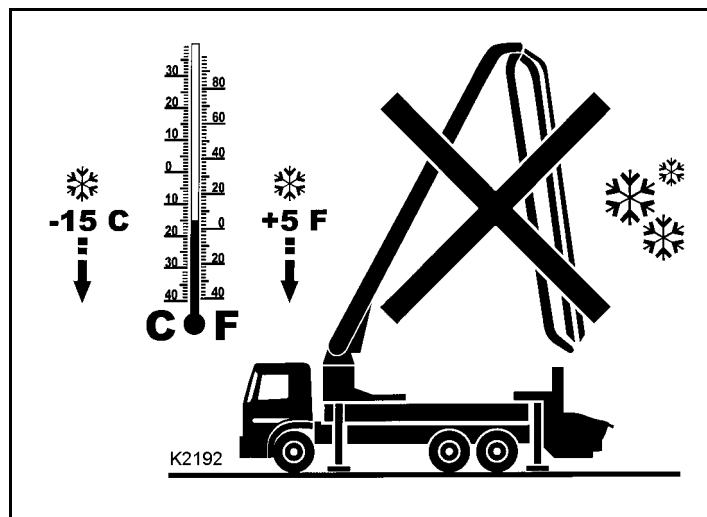

Fig. 269
**Placing booms may not be used at ambient temperatures below  $-15\text{ }^{\circ}\text{C}$  (Fig. 269)!**